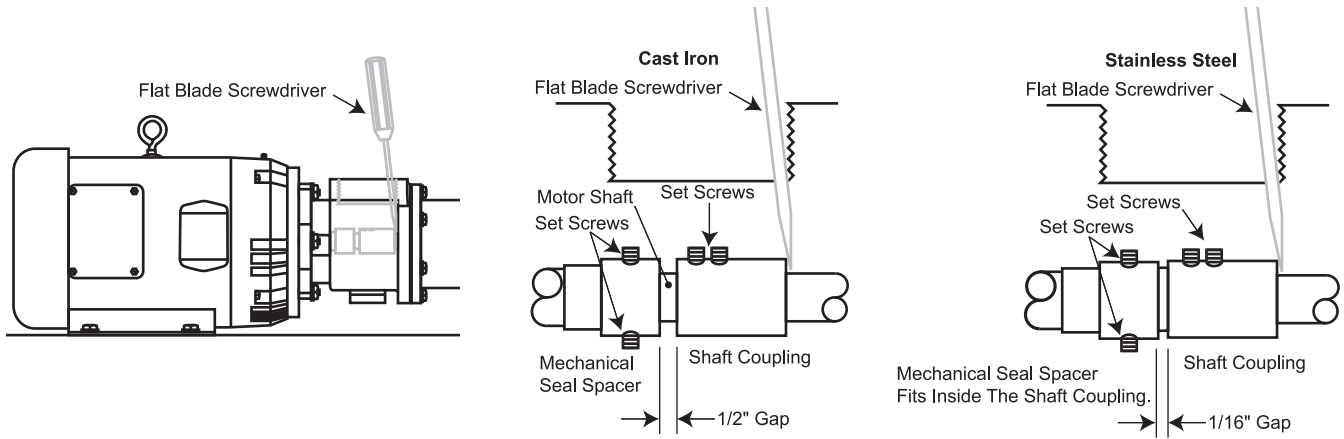

Figure 4
4. Tighten the flange ring on the pump housing to the motor bracket using four (4) 3/8 - 16 x 1 1/4 hex head bolts and lockwashers. Cross tighten the bolts evenly until the flange on the pump housing butts against the motor bracket.
5. Insert a flat blade screwdriver thru the suction inlet of the motor bracket and place it adjacent to the shaft coupling. (See Figure 4) Then, apply a prying force against the pump shaft coupling until the motor shaft butts against the pump shaft inside the shaft coupling. A "metallic thud" will be heard when contact is made. Now, tighten the two set screws securely.
11. Align the motor bracket with the rabbet fit and the four threaded studs on the motor adapter plate. Gently, position the motor bracket against the motor adapter plate. Do not pinch, nick, or damage the o-ring during installation. Secure with four (4) 3/8 -16 nuts and lockwashers.
13. Before tightening the set screws in the pump shaft coupling, move the pump shaft coupling as close to the motor as possible by prying against it (See Figure 4, Page 7). This movement will cause the motor shaft to make contact with the pump shaft inside the pump shaft coupling.